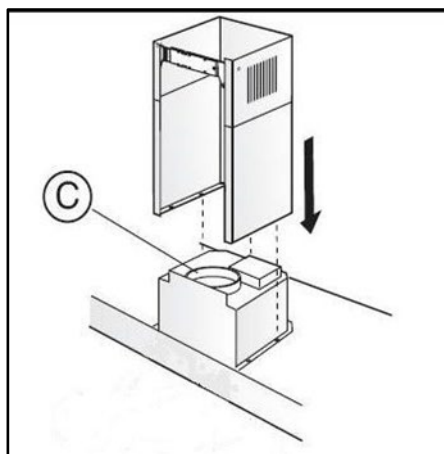

Fig.10
10. Connect the ducting pipe with the ducting outlet C on the top of the rangehood unit and lead the pipe to reach the venting hole on the wall. Slide the upper flue into the lower flue and put both flue pieces down to the rangehood top, see **Fig.10**.(Note: Ducting pipe needs to be purchased separately. Please contact Robinhood or installation experts for more details.)